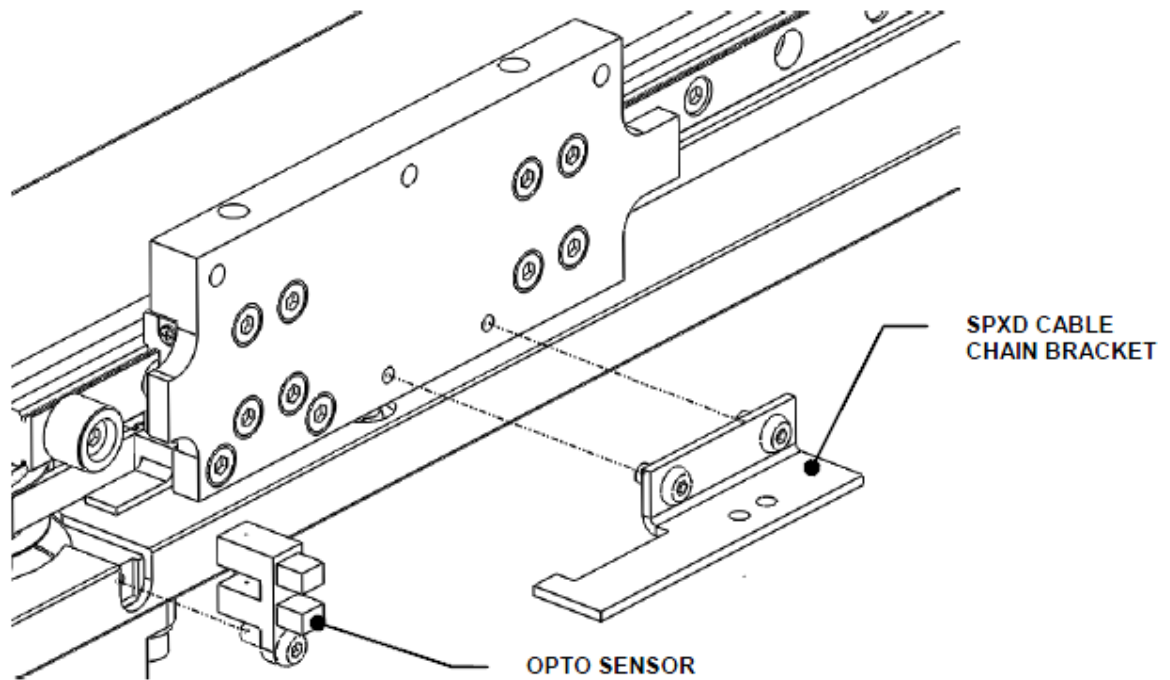

Figure S-9: Removing the Optosensor and Chain Cable Bracket
1. Remove the Optosensor and Chain Cable Bracket as shown in Figure S-9.
3. Replace the X Drive Chain Bracket and optosensor (Figure S-9). When replacing the optosensor use Loctite 425 and when replacing the bracket, use Loctite 222.